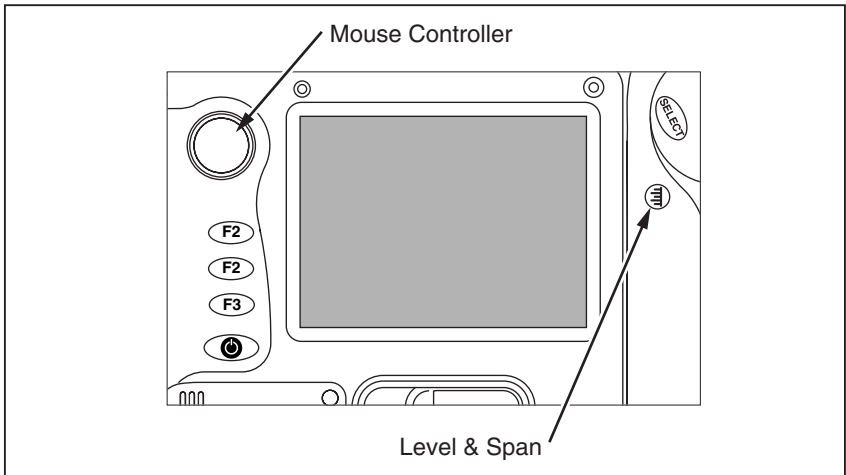

Figure 7. Setting the Fusion Blend Level
2. While continuing to press , use the MOUSE controller shown in Figure 7 to slide the IR Fusion blend level bar in the control box to the desired setting.